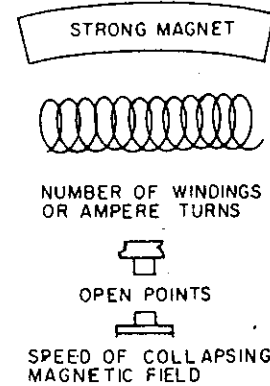

Figure 7
- D. The points then reclose to repeat the cycle sequence. High secondary voltage depends on the amount of conductor turns in the primary and secondary windings, the strength of the magnetic field within the magnet and primary circuit, and the speed at which the collapsing magnetic lines of force are cut by the secondary windings. (See Figure 7.)